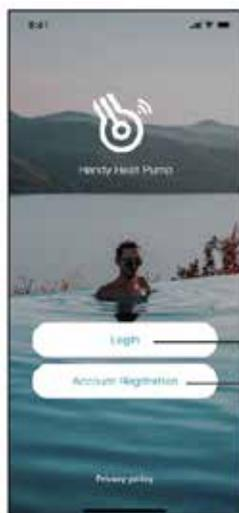
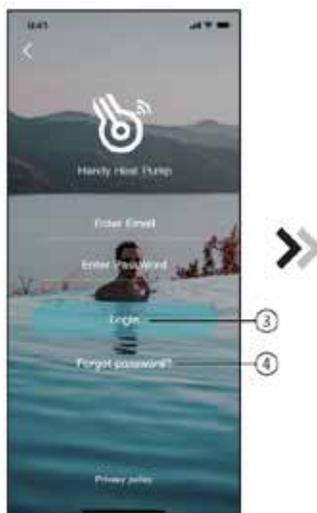
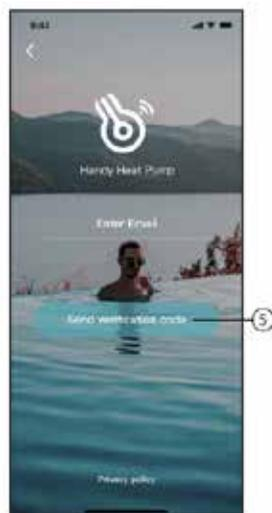

Fig.1 Home page
Fig.2 Login interface
Fig.3 Register and retrieve passwords
1. Account registration: Click 1 (Fig. 1) on the home page to jump to the account registration interface (Figure 3).
2. Login: Click 2 (Fig.1) on the home page to jump to the login interface (Fig.2) and follow the instructions on the page (as shown in the figure). Enter your registered email address and password, and click 3 to jump to the device list.
3. Forgot Password: When you forget your password, click 4 (Fig.2) and jump to the password forgotten interface (Fig.3). Fill in the relevant information according to the page instructions, click 5 to send the email verification code, and operate according to the page instructions.